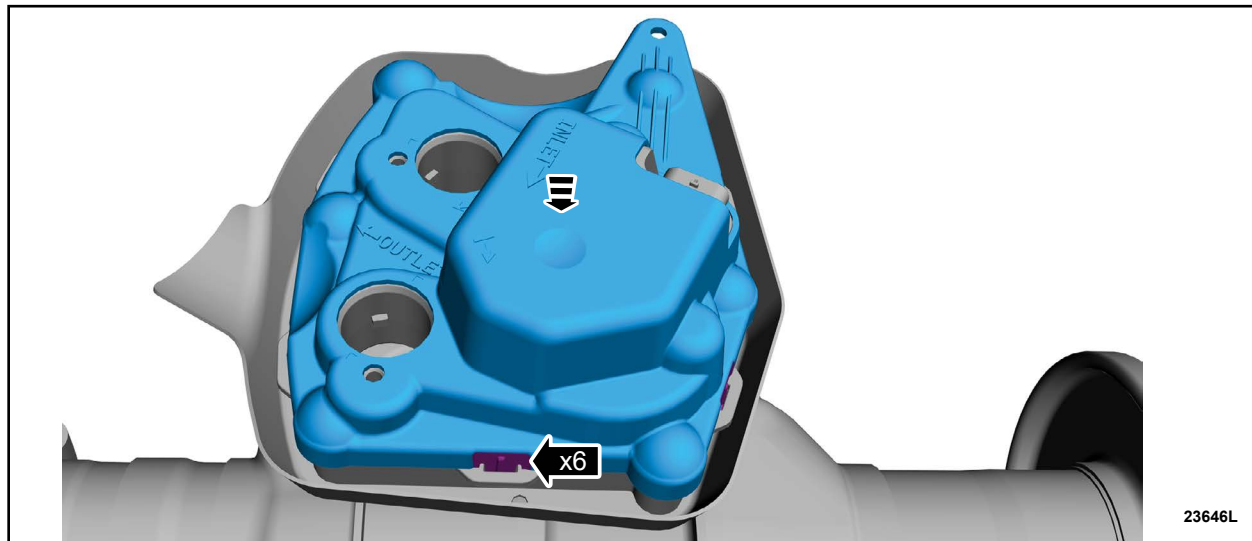

FIGURE 11
11. Install the cover. See Figure 11.